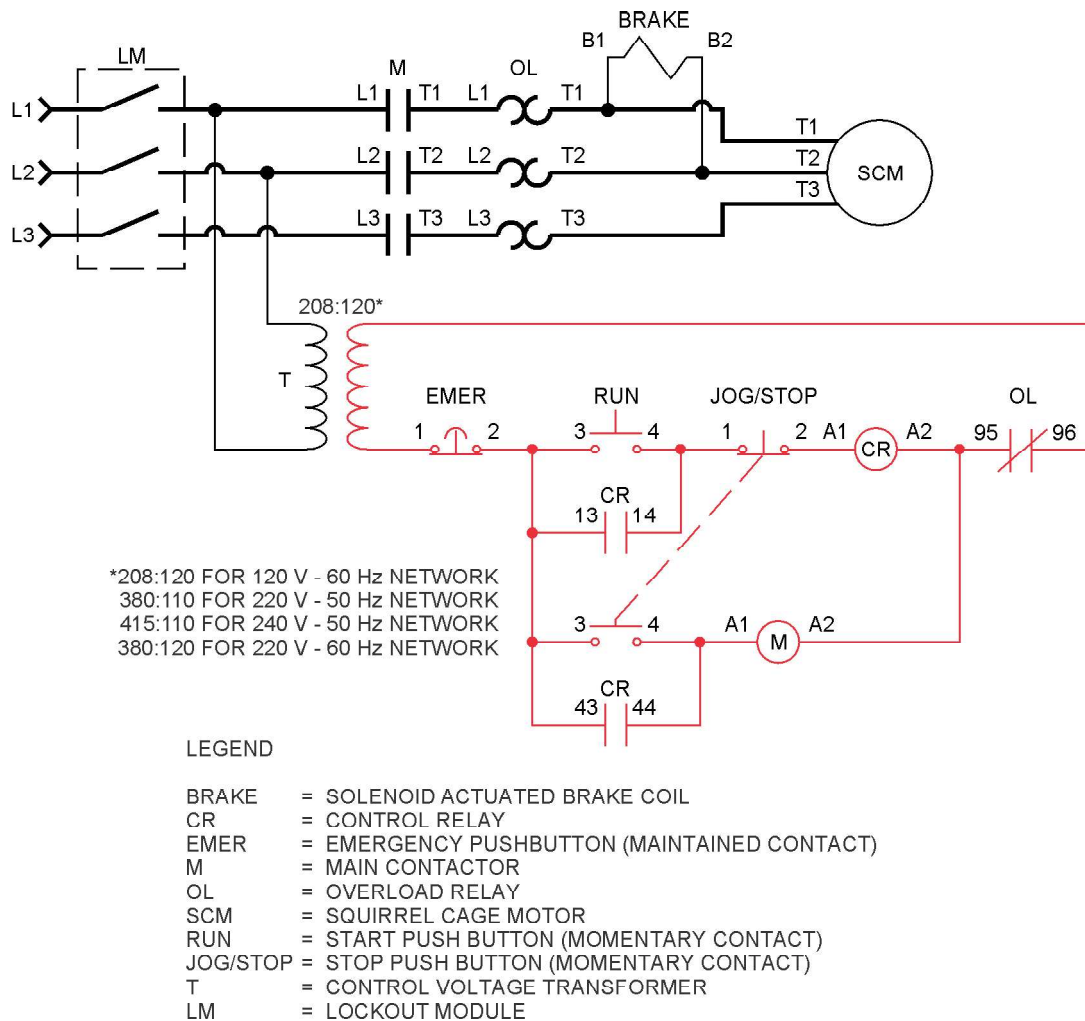

Figure 4-7. Jogging circuit with control relay.
Figure 4-7 shows a jog/run circuit using a control relay. When the RUN push button is pressed on, the control relay (CR) is energized and holding circuits are formed for both the control relay (CR) and the main contactor (M). The motor then starts and keeps running until the JOG/STOP push button is pushed, causing the control relay (CR) to de-energize.
*To implement the new circuit, you decide to set up a jogging circuit with a control relay. Implement the Figure 4-7 circuit and verify that it corresponds to what the client wants.*
2. In the Figure 4-7 circuit, what happens if the motor is running continuously and the JOG push button is pressed and released?